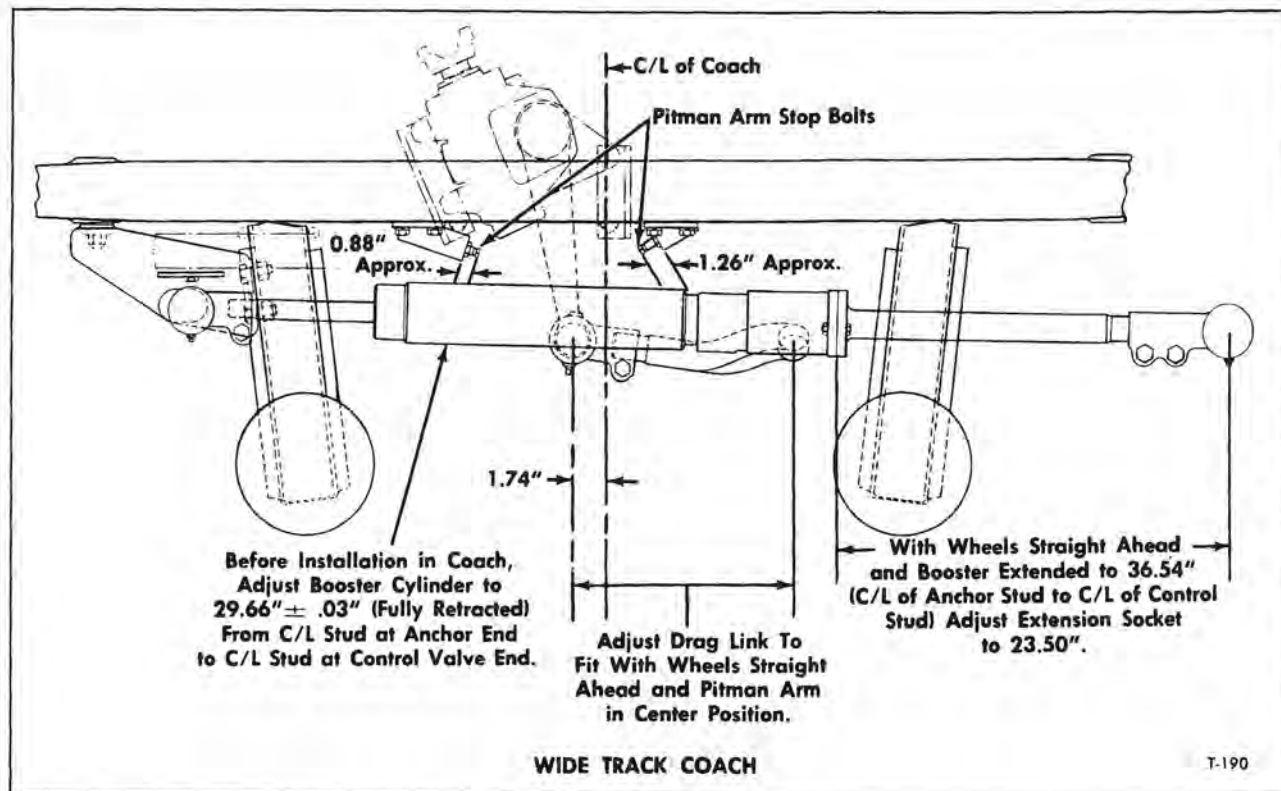
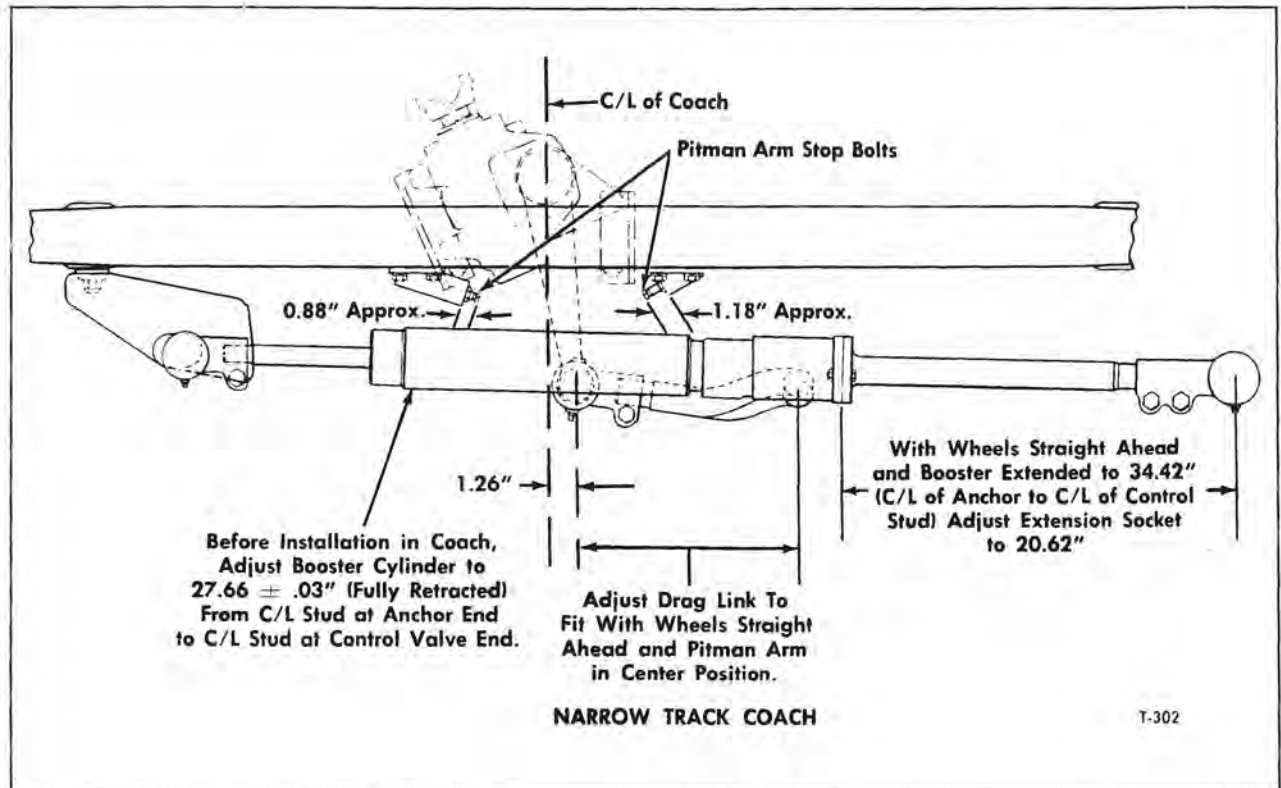

Figure 7—Power Steering Booster Cylinder Installation (Wide Track Coach)
Figure 8—Power Steering Booster Cylinder Installation (Narrow Track Coach)
1. Before installing booster cylinder (2) assembly in coach, compress booster cylinder into fully retracted position; then thread piston rod end socket assembly (1) on booster cylinder piston rod to the dimension shown in figure 7 or 8, measured from centerline of socket end tapered stud (1) to centerline of booster cylinder ball stud (4).
2. Position dust cover and dust cover spring on booster cylinder ball stud (4).
3. Position washer, dust cover, shield, and dust cover spring on piston rod end socket tapered stud (1).
4. Check length of cylinder extension and end socket assembly (5), measuring from center of end socket ball stud to flange of extension (figs. 7 and 8). Distance should measure 23.50" on TDH/TDM-4518 and TDH/TDM5303 (wide track coach). Distance should measure 20.62" on TDH/TDM4519, TDH/TDM5304, SDH/SDM4502 and SDH/SDM5302 (narrow track coach). Adjust as necessary to obtain these dimensions.
5. Set wheels in straight ahead position and extend booster cylinder to applicable following dimension (measure from C/L of piston rod end socket stud (1) to C/L of cylinder ball stud (4)).
6. At this stage of installation the booster cylinder (2) should be suspended horizontally under coach and fluid lines (3) connected to unit.
7. Position booster cylinder ball stud body flange (4) to flange of end socket extension (5), at the same time inserting booster cylinder ball stud (4) in hole at end of drag link (7) and piston rod end socket tapered stud (1) into hole in suspension support bracket (12). NOTE: Cylinder ball stud to drag link must be positioned at bottom of cylinder. When booster cylinder and end socket extension
11. Check position of Pitman arm as described previously under "Steering Gear Replacement" in "MECHANICAL STEERING." With front wheels and steering wheel in straight-ahead position, centerline of hole at drag link end of arm should be 1.74" to left of centerline of coach, when viewed from the rear, on TDH/TDM4518 and TDH/TDM5303 (wide track coach - fig. 7). On TDH/TDM4519, TDH/TDM5304, SDH/SDM4502 and SDH/SDM5302 (narrow track coach - fig. 8) centerline of hole at drag link end of Pitman arm (9) should be 1.26" to the right of centerline of coach.
12. If Pitman arm (9) is incorrectly positioned, disconnect drag link (7) from Pitman arm. Loosen clamp bolt securing end socket to drag link. With Pitman arm positioned as described in Step 11, and front wheels and steering wheel in straight-ahead